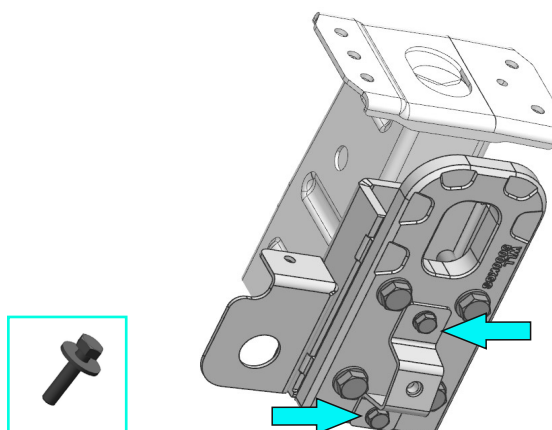

Fig.6
6. Install bash plate bracket (item L) on recovery point (item H) **for Ranger and Everest**. Fix using bolts M8x20, washers 8 (item B, E) (fig.6).